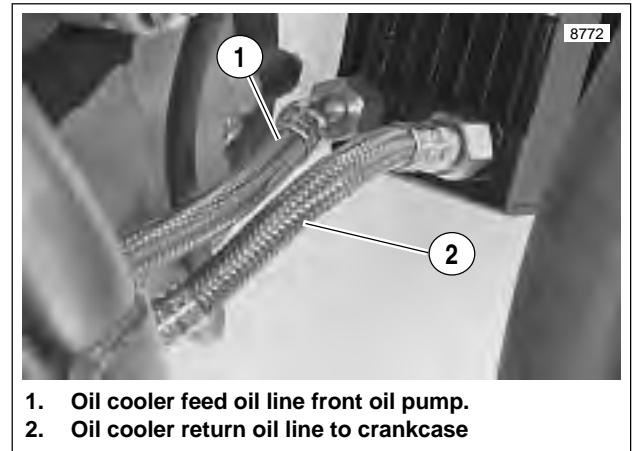

Figure 3-53. Oil Cooler Oil Lines
30. See Figure 3-53. Torque the feed oil line at the oil cooler to 15-17 ft-lbs (20.3-23 Nm).
33. See Figure 3-53. Finally torque the oil cooler return line fitting on the front of the oil cooler to 15-17 ft-lbs (20.3-23 Nm).